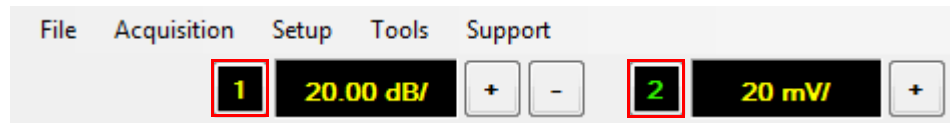

Figure 2-4 Channel number button on the graphical interface
- 1 Select the desired channel number button on the graphical interface to turn on the channel as shown in Figure 2-4.